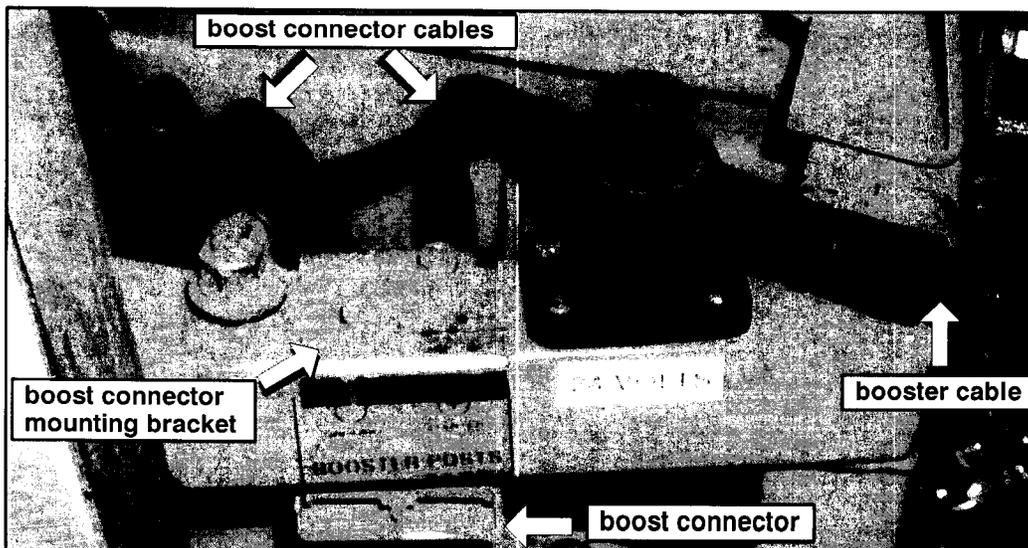

Figure 1. Existing boost connector.
2. Open the rear, side service compartment door and locate the boost connector (Figure 1).
10. Align the boost connector cables with the correct polarity booster post (Figure 1). Position the existing coach harnesses and the boost connector cables on the correct polarity booster post, orientated so that the largest diameter ring terminal is on the bottom.